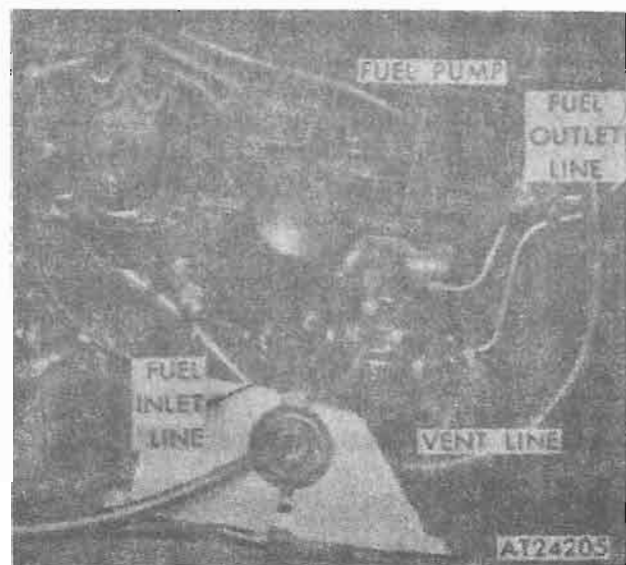

Figure 4-60. Fuel pump.
b. *Fuel Pump*—M151A2, M825 and M718A1 Vehicles (fig. 4-60). Disconnect fuel inlet line and tape end. Remove outlet and vent lines. Remove pump and gasket from cylinder block. Discard gasket. Refer to TM 9-2320-218-20.